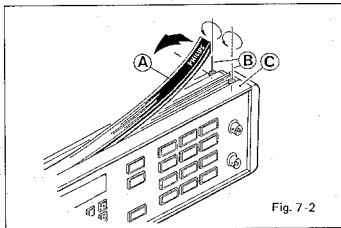

Fig. 7-2
- Lift the profile ornament (A) (Fig. 7-2) with a small screw driver.
- Remove the screws (B) (Fig. 7-2).
- Remove the edging (C) (Fig. 7-2).
- Prise off carefully both plastic profile strips next to the handle in the similar way as the profile ornament of the front-panel edging shown in Figure 7-2.